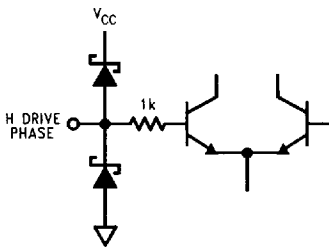

FIGURE 14
**Pin 23 - H DRIVE PHASE:** A DC control voltage applied to this pin sets the phase of the flyback pulse with respect to the leading edge of H sync. See *Figure 14* for the input schematic.